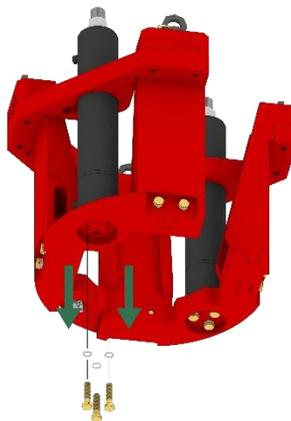

Fig. 26
Step 3: Remove the cylinder retainer bolts from the bottom body plate. See Figure 26.